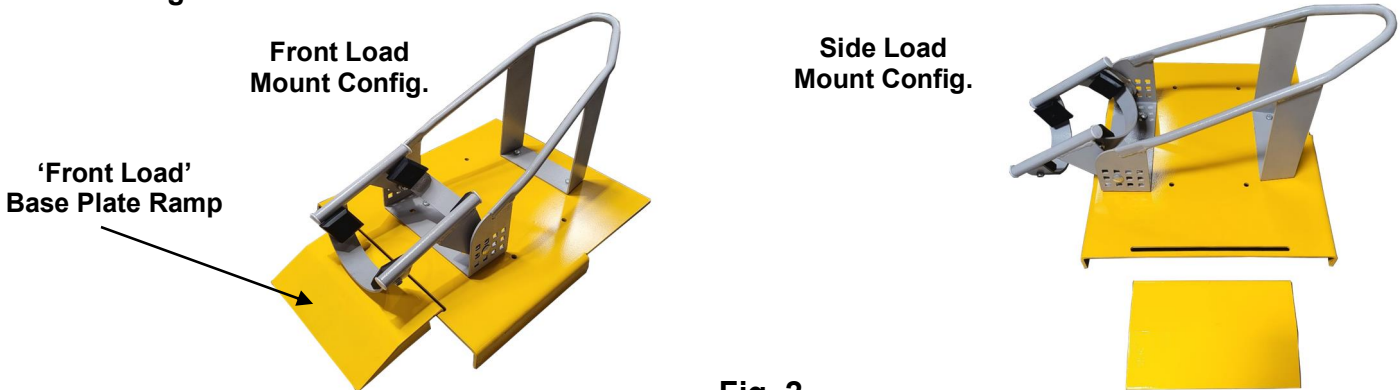

Fig. 2.
3) Align the **M-Chock Frame** holes to **Base Plate** holes for either 'Front or Side' loading configurations. Fig. 2.
- Once determined, position M-Chock Base Plate assembly to the desired platform, insert it to the front platform section, making sure the Base Plate sides are fully inserted & secured between the platform & side ramp brackets. Insert small ramp to back of Base Plate. Figs. 2 & 7.